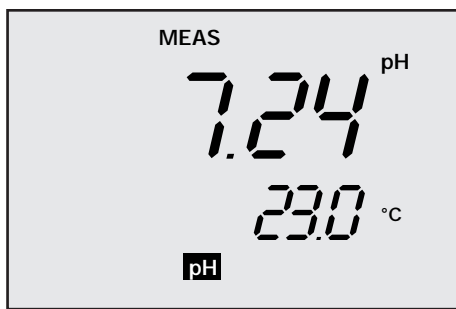

Figure 6
2. Switch the meter on. Make sure the meter is in MEAS mode. See Figure 6.